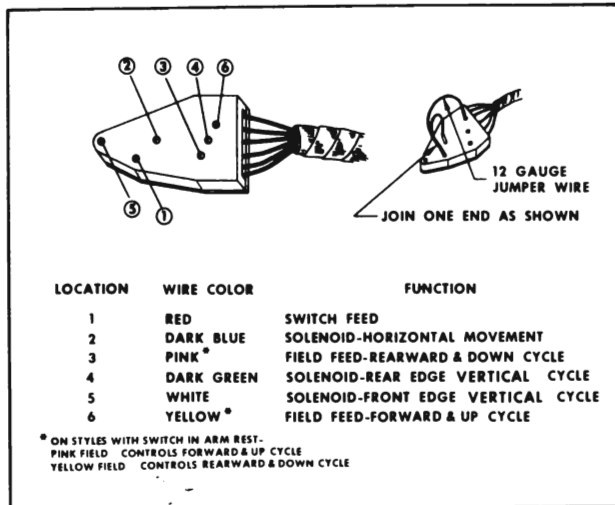

Figure 8-17—Six-Way Seat Control Switch Block
**NOTE:** To make jumper wire, obtain two (2) pieces of #12 gauge wire, each 4-1/2" long. Join one end of each wire as shown in Figure 8-17. The joined end can be inserted in the feed location in the switch block; one of the remaining ends can be inserted into one of the solenoid locations.
a. Connect one light tester lead to feed terminal of switch block and ground other test lead to body metal. See Figure 8-17.
**NOTE:** In the following operations which specify the seat control switch to be actuated, a switch that has been checked for proper operation may be connected to the switch block. If a switch is not available, a three-way jumper wire can be made to perform the switch function. The jumper wire and the switch locations to be connected to obtain a specific movement of the seat are shown in Figure 8-17. If a jumper wire is used, number the locations on the switch block as indicated in the illustration. Details outlining the making, and use of the jumper wire follow the checking procedures.
To make jumper wire, obtain two (2) pieces of #12 gauge wire, each 4-1/2" long. Join one end of each wire as shown in Figure 8-17. The joined end can be inserted in the feed location in the switch block; one of the remaining ends can be inserted into one of the field locations in the switch block; the other end can be inserted into one of the solenoid locations.